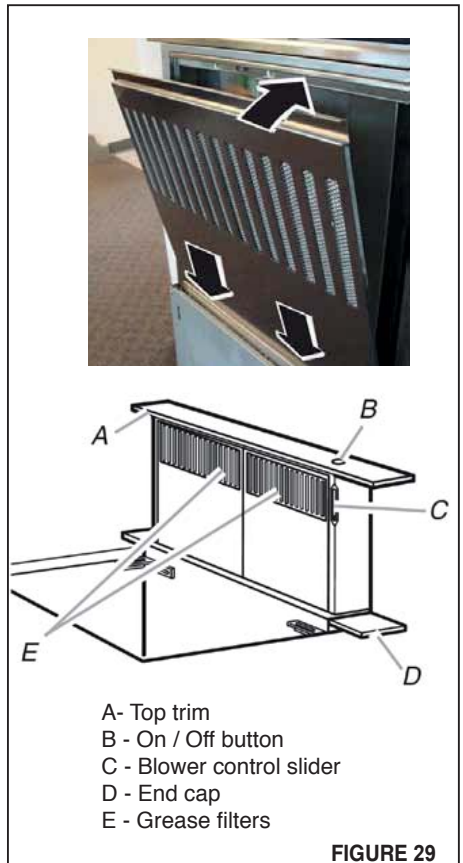

FIGURE 29
1. Place filters into the retractable section of the downdraft vent. (E in FIGURE 29)